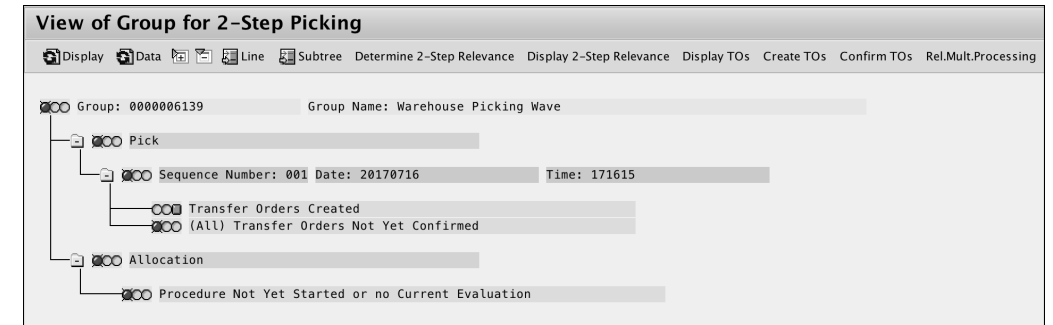

Figure 4.24 View of Group for 2-Step Picking Screen
- The two-step monitor shows you the status for the pick or consolidated picking, and also for the allocation or individual picking, as shown in Figure 4.24.